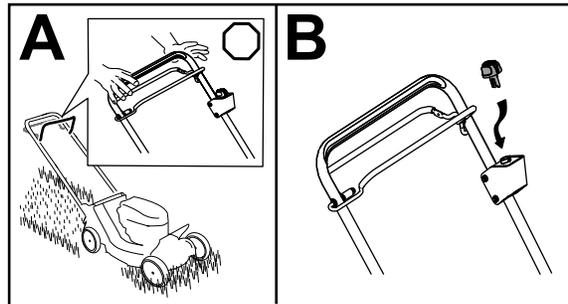

Figure 17
1. Release the blade-control bar (A of Figure 17).
2. Remove the electric-start button from the electric-start switch (B of Figure 17).